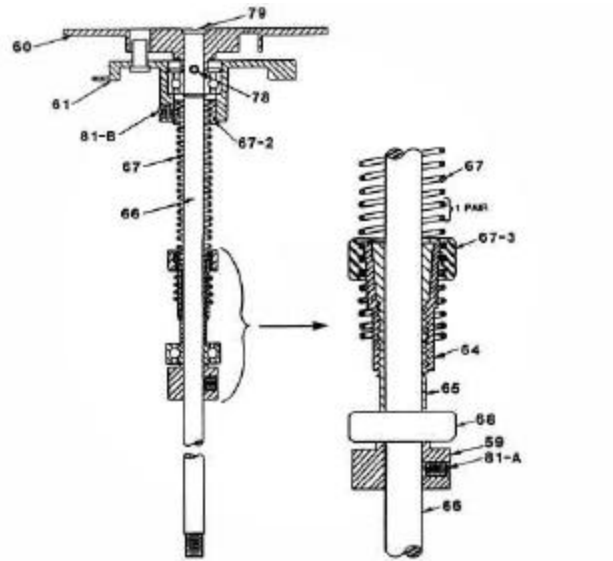

Fig. 1
If a Calibration of the spring is required, it will be necessary to remove the Torsion Shaft Assembly. A typical assembly is shown in Fig. 1. Dis-assembly, spring re-calibration, and re-assembly procedures are described in Section 3 for the Model 280 Rheometer and Section 4 for the Model 286 Rheometer.
This procedure requires the removal of the Torsion Shaft Assembly, shown in Fig.1, from the Rheometer, and mounting it in the Calibration Fixture.
1. Set the torsion spring assembly for approximately 9-1/4 to 9-1/2 pair turns by rotating the outer collet [67-3]. (Refer to Fig. 1) on spring [67] to the proper point.
- Loosen two Zeroing screws that act as set screws against the flat on the Torsion Body, [item 6, Fig 1] (right hand side of frame) sufficiently to clear and allow
1. Set the torsion spring assembly for approximately 9-1/4 to 9-1/2 active pair turns by rotating the outer collet [67-3] on spring [67] to the proper point. (Refer to Fig. 1)